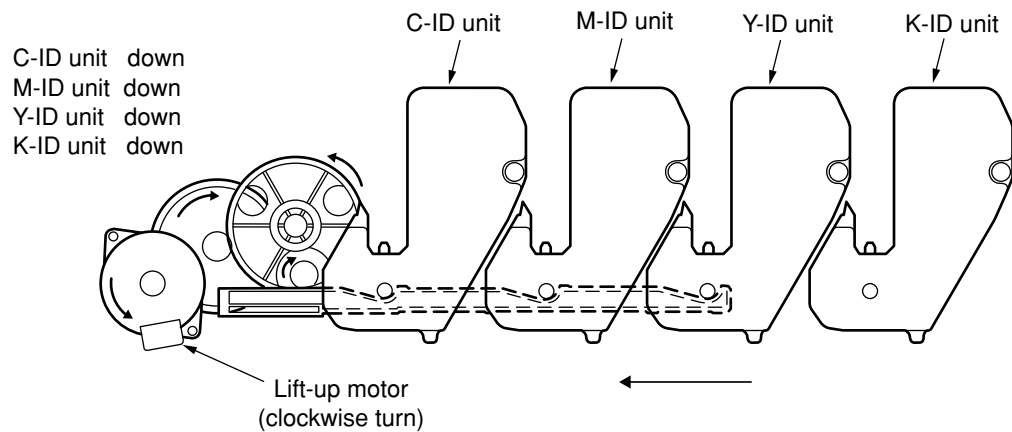
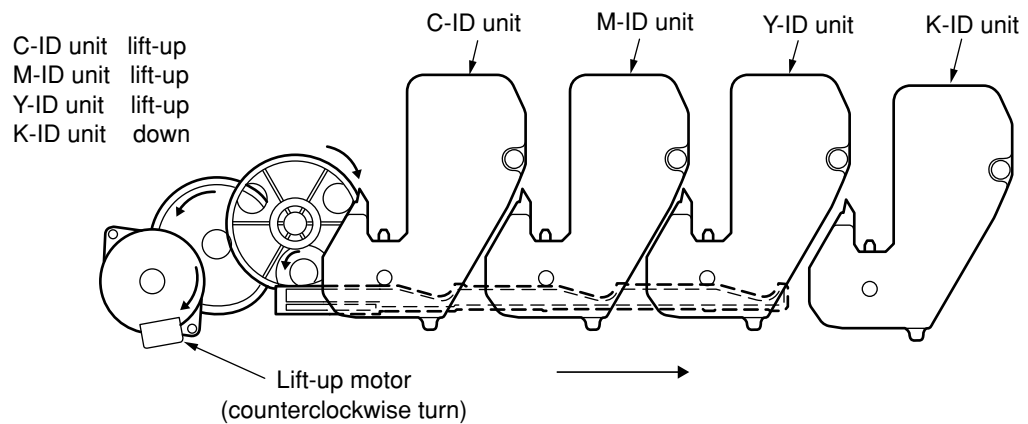
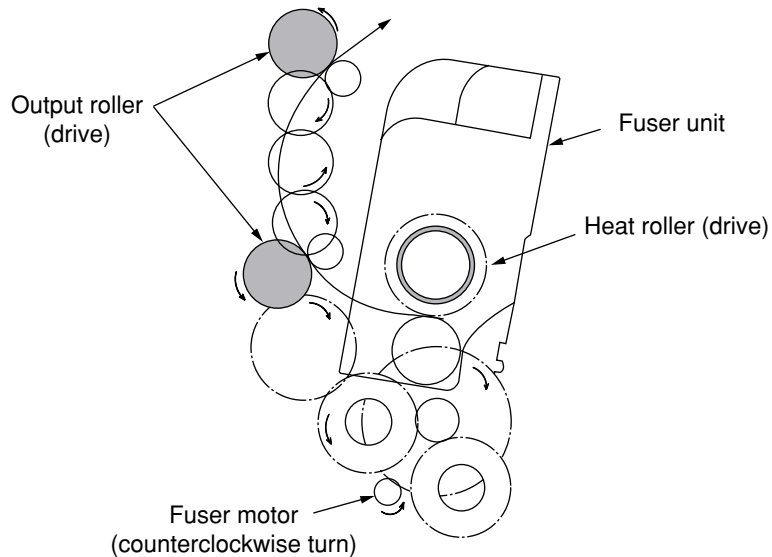

Figure 2-5
Figure 2-6
Figure 2-7
2. Figure 2-5 shows movements of each ID unit at the time of printing. When the lift-up motor turns clockwise, the lift-up link slides to the left and each ID unit is in the state of down as shown in Figure 2-6. That condition enables color printing.
3. Figure 2-6 shows movements of each ID unit at the time of monochrome printing. When the lift-up motor turns counterclockwise, the lift-up link slides to the right and the units other than K-ID are in the state of up as shown in Figure 2-7. That condition enables monochrome printing.
1. As shown in Figure 2-7, the fuser unit and output roller are driven by the pulse motor. When the fuser motor turns counterclockwise, the heat roller turns. This roller fuses the toner image on the paper with heat and pressure.